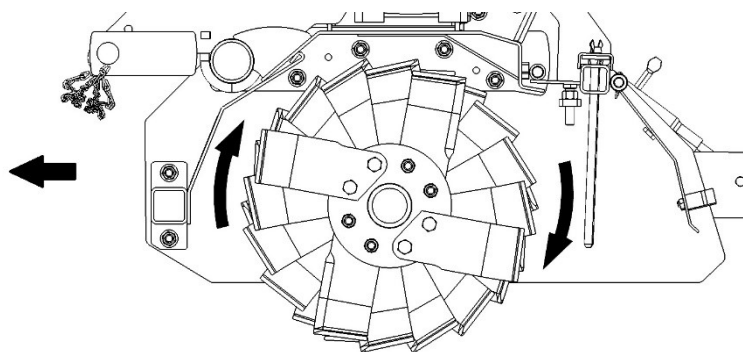

Figure 4. Direction of rotation of the rotor shaft with curved tines
- position the rotor shaft (1) so that the curved tine being replaced (2) is easily accessible,
- unscrew the nuts (3) and remove the securing bolts (4),
- replace the curved tine with a new one, paying attention to the correct installation of the cutting edge so that it corresponds to the direction of rotation of the rotor shaft (Fig. 4),